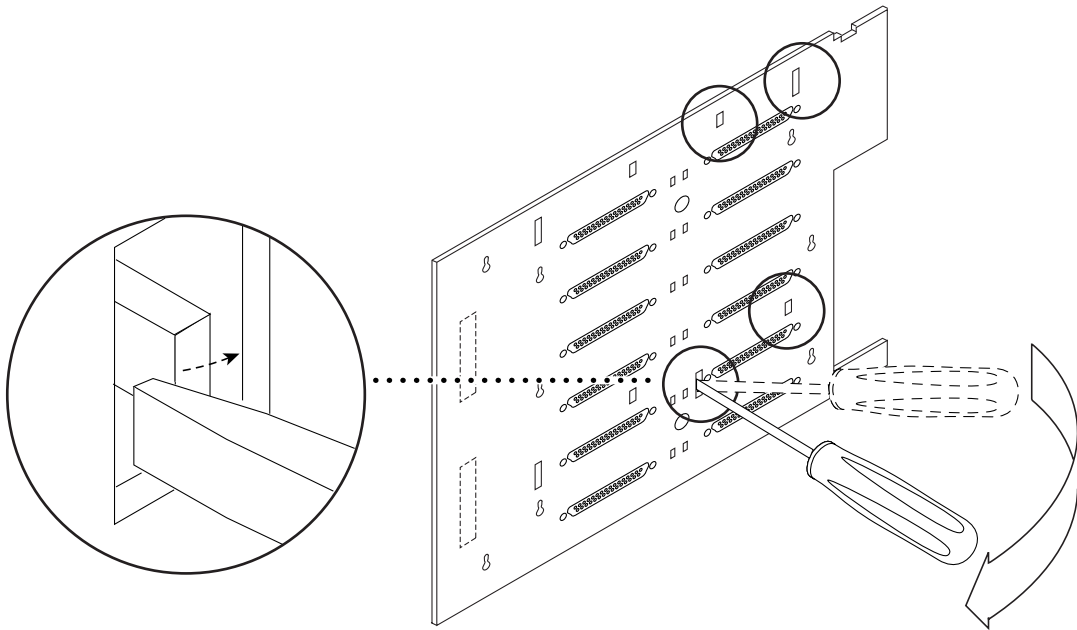

FIGURE 5-7 Unlatching the Tabs on the Right Side
- b. Angle the screwdriver to your left to unlatch the four hooks on the right side of the unit (FIGURE 5-7).